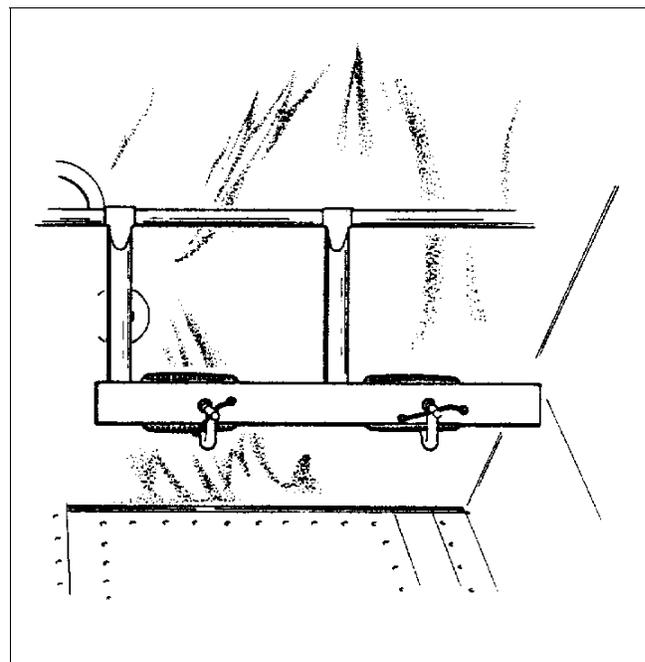

Figure 27-16. Clamping Rudder Pedals
- c. Clamp rudder pedals together in neutral position. (Refer to Figure 27-16 and Alignment of Nose Landing Gear, Chapter 32.)
- (1) Adjust pedal stop (on fire wall) to provide 0.06 to 0.120 of an inch clearance.
- (2) Repeat procedure with the copilot's right rudder pedal.